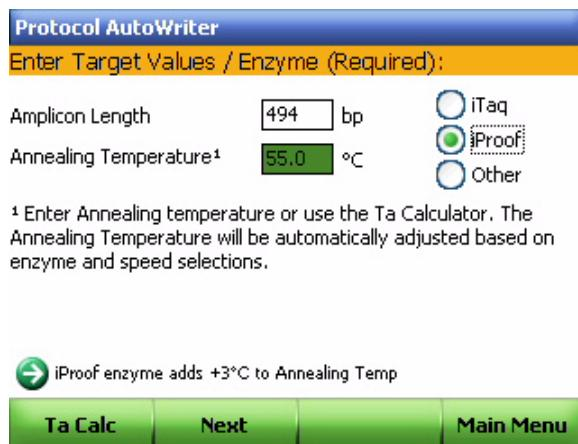

Figure 72. Enter the amplicon length, annealing temperature, and enzyme to be used.
2. Enter the amplicon length in base pairs (bp) **Amplicon Length** box and the T_a in °C in the **Annealing Temperature** box. In Figure 72, the amplicon length is 494 bp and the T_a is 52°C. If the T_a is unknown, refer to “Creating a Protocol when the T_a is Not Known” on page 51.